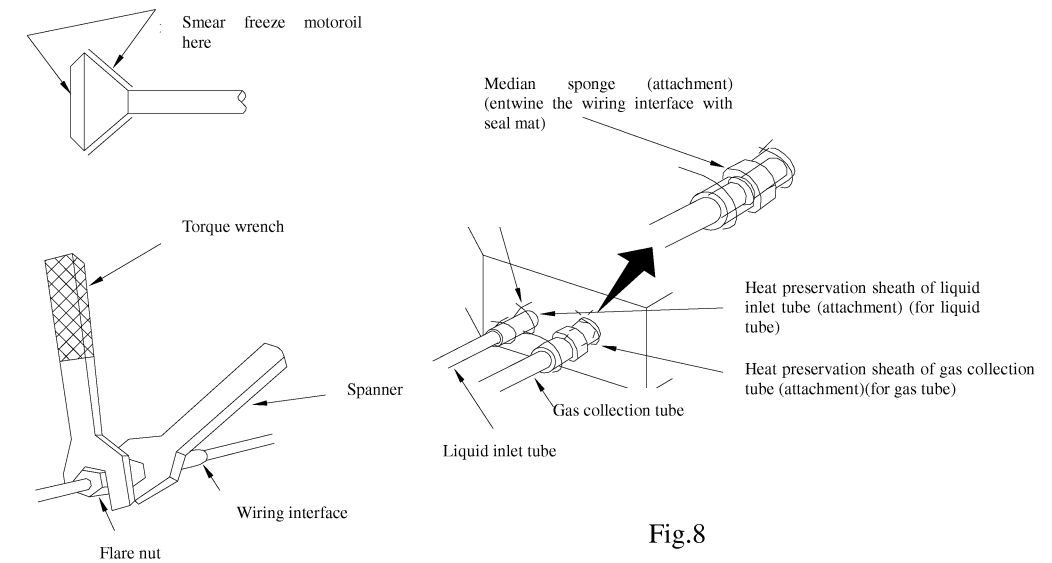

Fig.8
- ☆ When connect the pipe to the unit or backout it from the unit, please do use both spanner andtorque wrench. As shown in fig.8.
- ☆ Examine the connection pipe to see if it had gas leakage, then take the treatment of heat insulation, as shown in the fig.8.